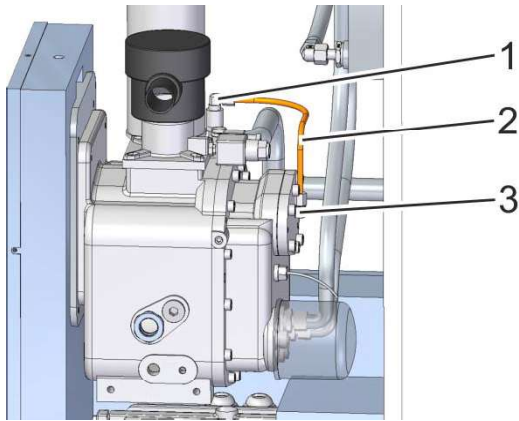

Fig. 41: Return line
5. Unfasten the return line (Fig. 41/1) on the air/oil separator (Fig. 41/2) and the compressor airend (Fig. 41/3).
6. Clean the return line (Fig. 41/1) and nozzle. If necessary, replace them with original spare parts (↪ *Parts List*).
7. Place the nozzle and return line (Fig. 41/1) back in position and tighten the screw connections.